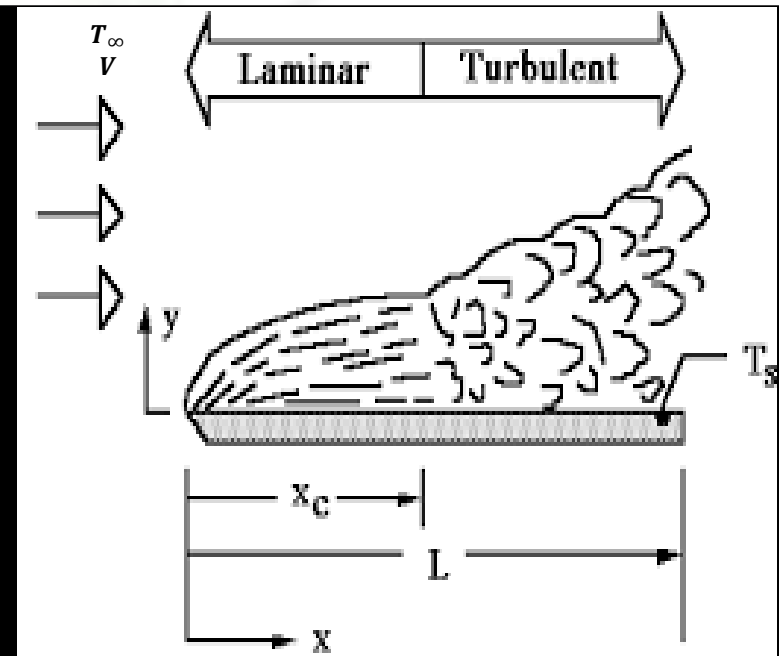

Fig 4: Laminar and turbulent regions of the boundary layer during flow over a flat plate
- Transition from laminar to turbulent regions in the velocity boundary layer during a flow over a flat plate is as shown in Fig 4.